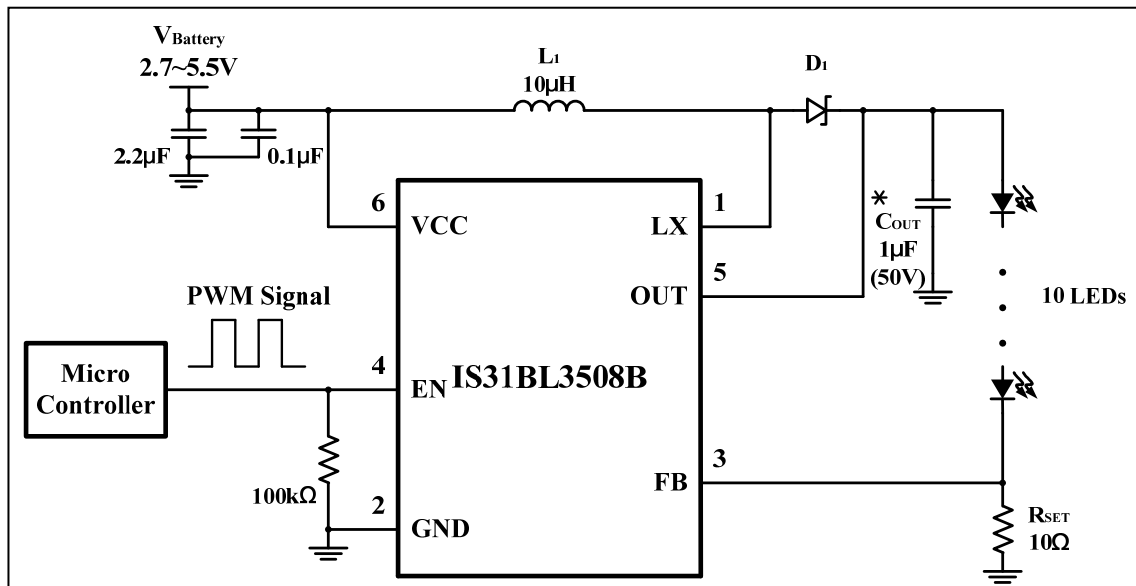

Figure 1 Constant current white LED driver using PWM at the EN pin to control intensity
The choice of the inductor value will affect the performance of the device. Large value inductors will reduce the current ripple in the inductor, thus reducing output voltage ripple. However large value inductors of the same current rating, typically also have larger DC resistance, thus reducing the system efficiency. For example in Figure 1, the loads are 10 WLEDs and output current is 20mA. The maximum input current can reach 300mA. For this application a 4.7μH or 10μH 400mA inductor is sufficient.
When the IS31BL3508B is used for LED driving applications (Figure 1), the LED current flows through the external feedback resistor R_{SET} to regulate the LED current. The internal feedback regulation point is 0.2V. The maximum LED current may be calculated by the following Equation (1).